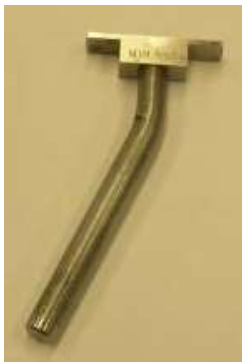

Figure 57
- (a) Install one end of the counterweight Circlip Check Gage, P/N 64892-2 (Figure 57) between the ends of the circlip (Figure 59).